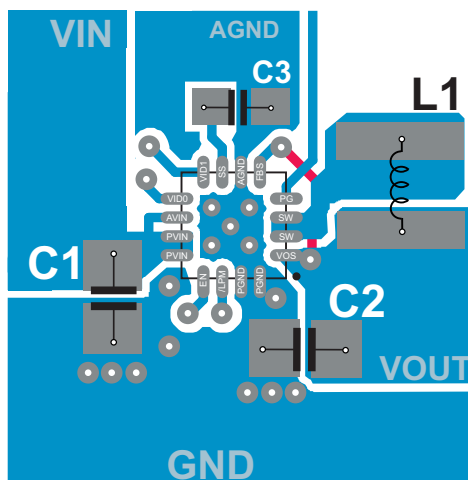

图 18. TPS62134x Layout Example
- See 图 18 for an example of component placement, routing, and thermal design.